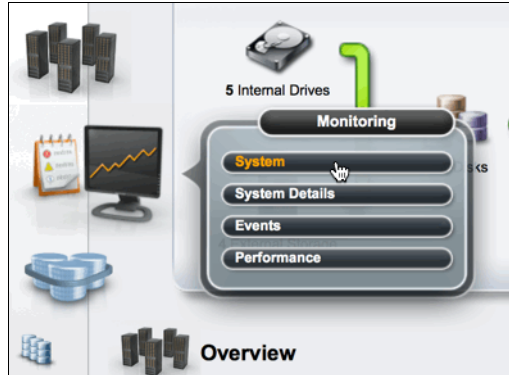

Figure 1 Accessing the System window in the web-based GUI
1. Using the **Monitoring** icon in the navigation menu of the Web-based GUI, access the **System** window, as shown in Figure 1.